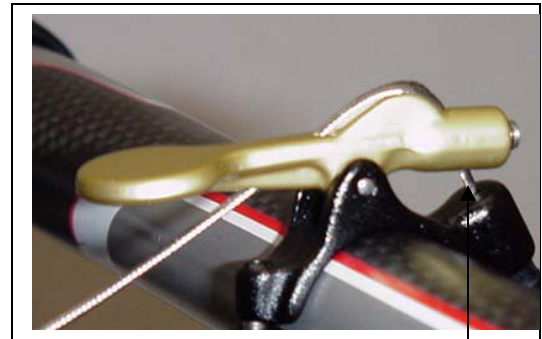

Figure 7
13. Pull the inner wire until there is no slack in the cable. Be sure to set a 2mm gap between the front of the lever and the top of the cable stop to insure that you have not over tightened the cable before you tighten the 2mm Allen bolt on the front of the lever to cinch the inner wire. (Refer to Figure 7)